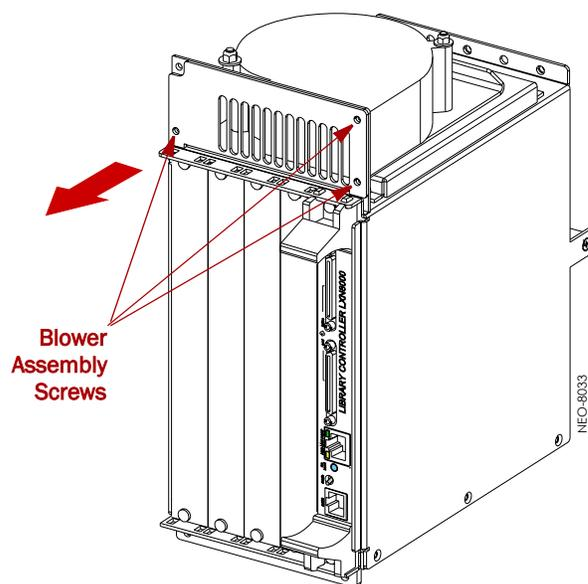

Figure 2. Blower Assembly Attachment Points
1. Remove the three **M3x10mm** screws on the blower assembly (Figure 2).